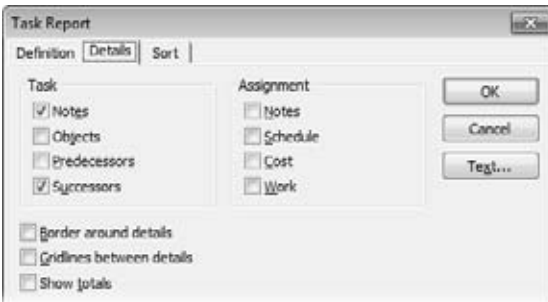

Figure 17-6:
- **Details to include.** On the Details tab, shown in Figure 17-6, you can turn checkboxes on or off to include other types of information. For tasks, you can include task notes, attached objects like documents, predecessors, or successors. For resources, you can include notes, objects, the resource calendar, or the cost rate. For assignments, you can include notes or schedule, cost, or work values.